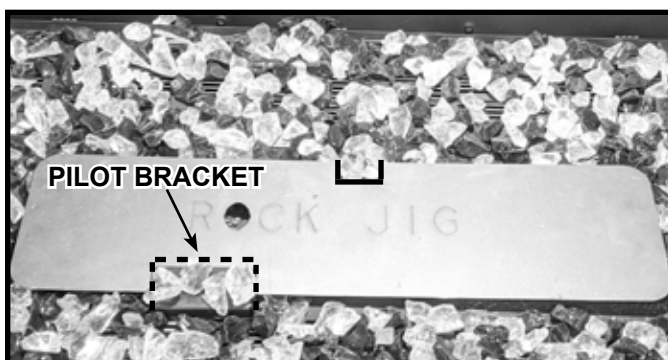

Figure 11.6 Place Rock Jig
2. Place rock jig on glass media with lasered text "ROCK JIG" facing up. Ensure that the rock jig sits flush against the pilot bracket. See Figure 11.6.